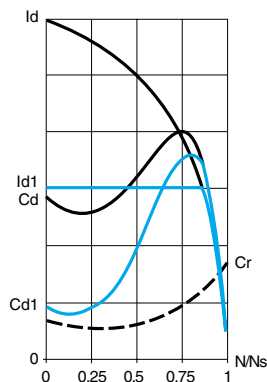

Figure 1
■ Figure 1 shows the behaviour of the torque in relation to the starting current.